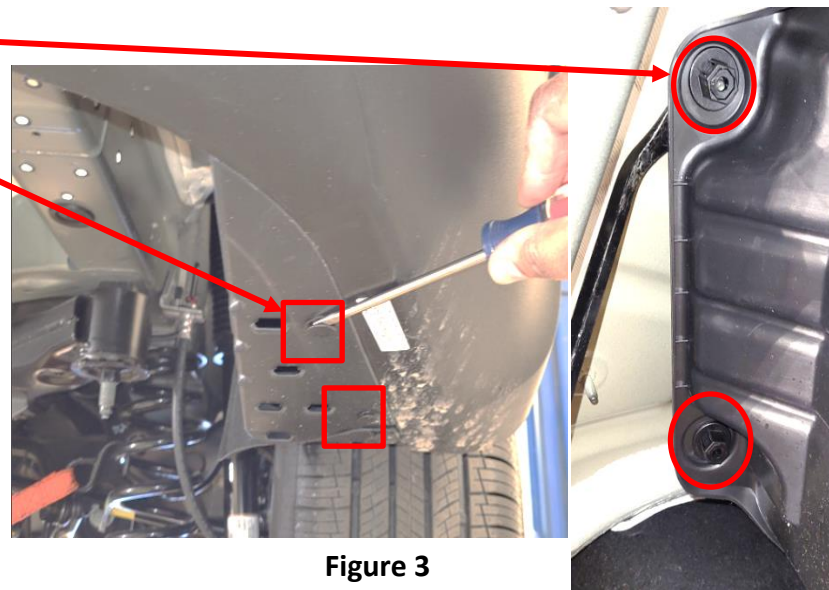

Figure 3
b) Using flat head screwdriver and pry bar, remove (5) plastic rivets from passenger side underbody panel, see **Figure 3**. Keep it for reinstallation.